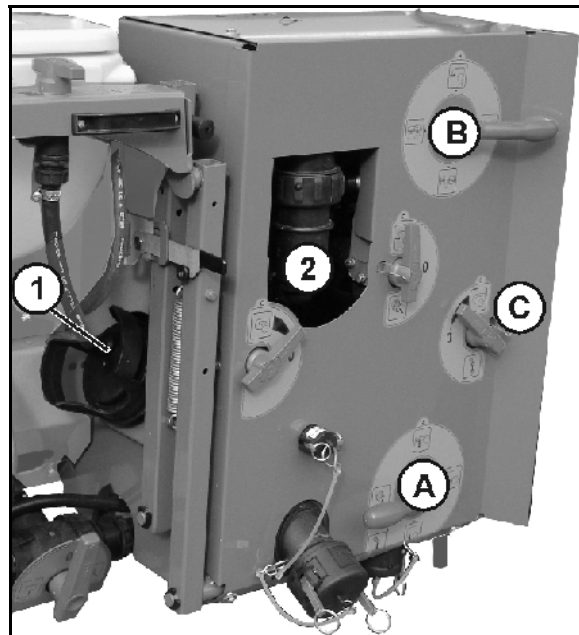
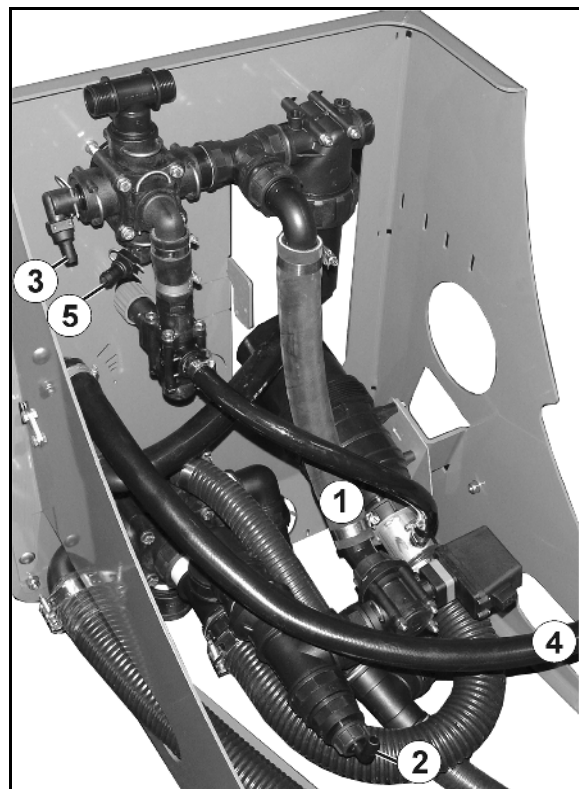

Fig. 120
Fig. 121
2. Remove and clean the suction filter (Fig. 120/1); see on page 167.
- 5.1 Drain the pressure filter (Fig. 120/2) via tap **C**.
- 5.2 Unscrew the agitator hose (Fig. 121/4) (which comes out of tap **C**) from the spray liquid tank.
6. Unscrew the supply hose (Fig. 121/1) from the control valve. The supply hose connects the VARIO switch tap on the pressure side (Fig. 120/**B**) with the suction chest.
7. Unscrew the return hose (Fig. 121/2) for the part width section valve from the VARIO switch tap on the suction side (Fig. 120/**A**).
9. Remove the internal cleaning hose (Fig. 121/3) for the VARIO switch tap on the pressure side (Fig. 120/**B**).
11. Also remove the external cleaning hose even if there is no external cleaning (Fig. 121/5).
15. Move the VARIO switch tap on the suction side (Fig. 120/A) and the VARIO switch tap on the pressure side (Fig. 120/B) several times between all their switch positions.